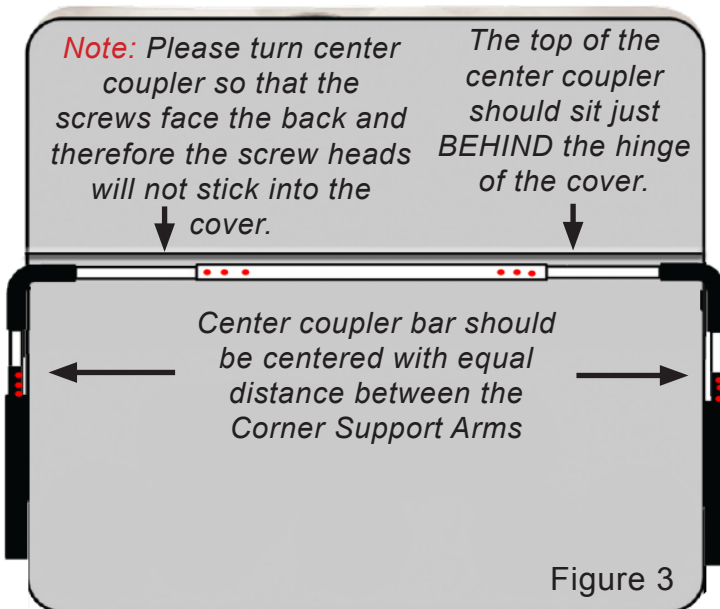

Figure 3
**8** Carefully slide the two ends of the **Support Arms** into the **2 Assembled Brackets** until the cover sits in the correct closed position, i.e. square on the spa. (See *Figure 3*)